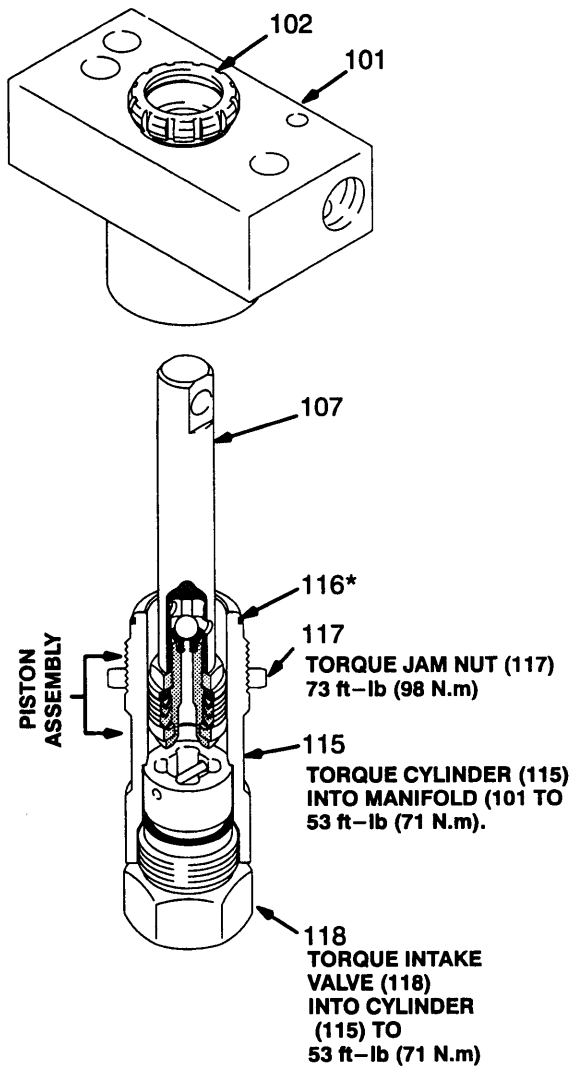

Fig 23-1
11. Coat the piston rod and packings with oil. Carefully slide the assembly INTO THE TOP OF THE CYLINDER (115). See Fig 23-1.
12. Place a new o-ring (116*) firmly in the cylinder groove. See Fig 23-1.
13. Place the intake valve (118) in a vise and assemble its parts. See page 21. Screw the cylinder (115) onto the valve (118). See Fig 23-1.
14. Put the manifold in a vise. Guide the rod/cylinder assembly up through the manifold (101). Screw the cylinder (115) into the manifold and tighten to 53 ft-lb (71 N.m).
15. Tighten intake valve (118) to 53 ft-lb (71 N.m). See Fig 23-1.
16. Tighten the cylinder jam nut (117) to 73 ft-lb (98 N.m). See Fig 23-1.